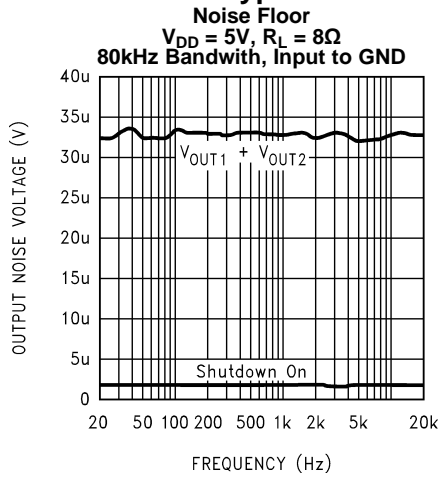

Figure 10.
- (1) Absolute Maximum Ratings indicate limits beyond which damage to the device may occur. Operating Ratings indicate conditions for which the device is functional, but do not ensure specific performance limits. Electrical Characteristics state DC and AC electrical specifications under particular test conditions which ensure specific performance limits. This assumes that the device is within the Operating Ratings. Specifications are not ensured for parameters where no limit is given; however, the typical value is a good indication of device performance.
- (2) If Military/Aerospace specified devices are required, please contact the Texas Instruments Sales Office/ Distributors for availability and specifications.
- (3) If the product is in Shutdown mode and V_{DD} exceeds 6V (to a max of 8V V_{DD}), then most of the excess current will flow through the ESD protection circuits. If the source impedance limits the current to a max of 10mA, then the device will be protected. If the device is enabled when V_{DD} is greater than 5.5V and less than 6.5V, no damage will occur, although operation life will be reduced. Operation above 6.5V with no current limit will result in permanent damage.
- (4) The maximum power dissipation must be derated at elevated temperatures and is dictated by T_{JMAX} , θ_{JA} , and the ambient temperature T_A . The maximum allowable power dissipation is $P_{DMAX} = (T_{JMAX} - T_A) / \theta_{JA}$ or the number given in Absolute Maximum Ratings, whichever is lower. For the LM4906, see Figure 10 for additional information.
- (5) Maximum power dissipation in the device (P_{DMAX}) occurs at an output power level significantly below full output power. P_{DMAX} can be calculated using Equation 1 shown in the Application Information section. It may also be obtained from the power dissipation graphs.
- (6) Human body model, 100pF discharged through a 1.5k Ω resistor.
- (7) Machine Model, 220pF–240pF discharged through all pins.